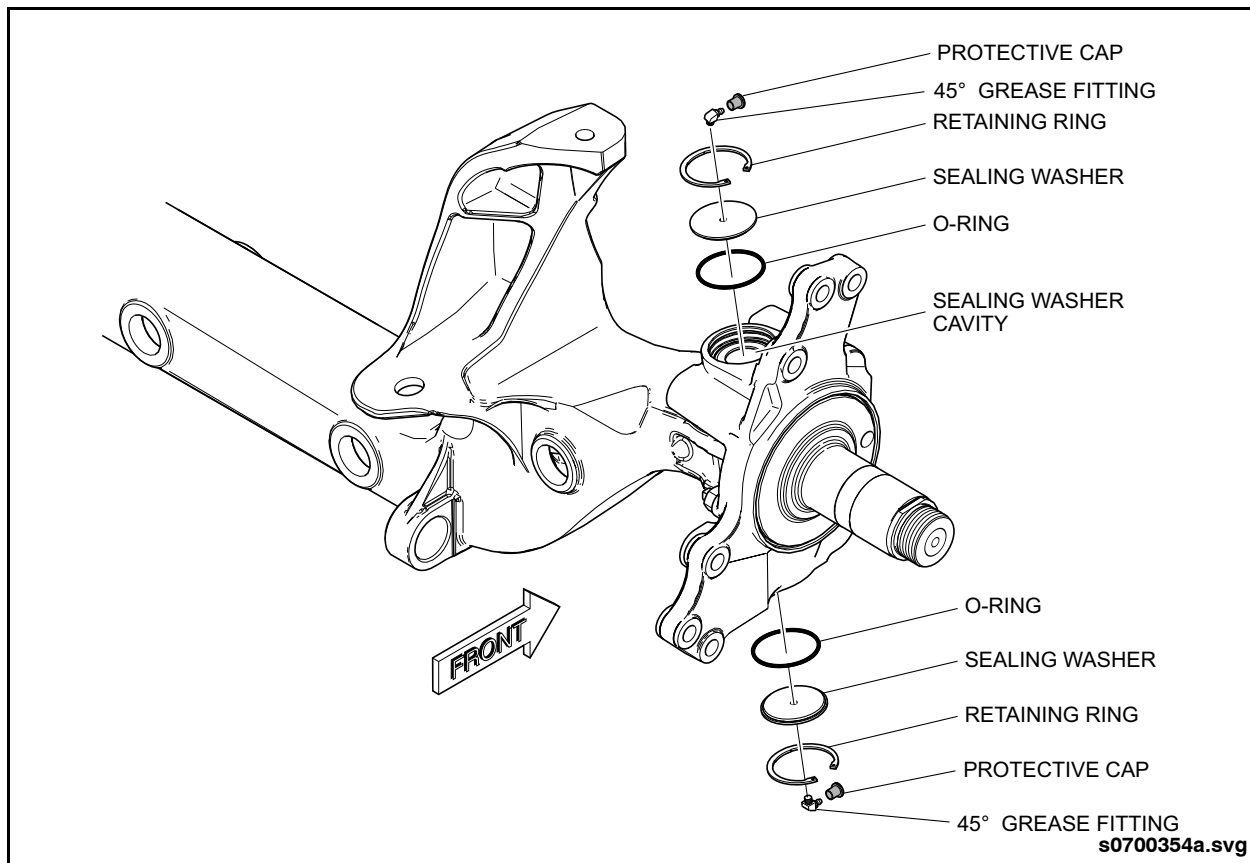

Fig. 1: Steering Knuckle Lubrication
1. Remove upper and lower dust caps, if installed, and discard. See "Fig. 1: Steering Knuckle Lubrication" on page 2.